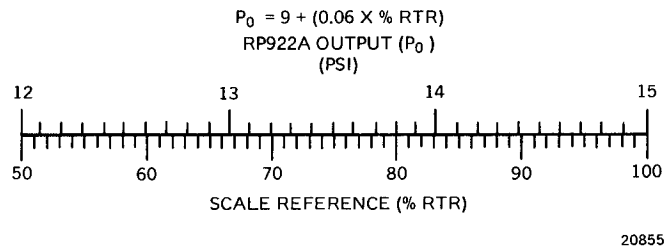

Fig. 6. RP922A Output Pressure (P_0) Based on Job Required % RTR.
5. Turn dial on RTR so gage reads required psi output (P_0) based on the job required % RTR as indicated on Settings work sheets. See Figure 6. (EXAMPLE: 90% RTR equals 14.4 psi.)